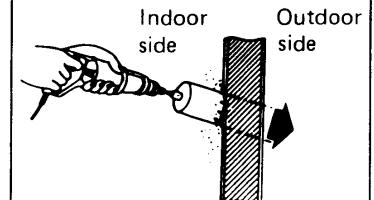

Fig. 7
- d) Using a hole saw 3-5/32" dia. or key hole saw, cut a hole in inside wall. Fig. 7